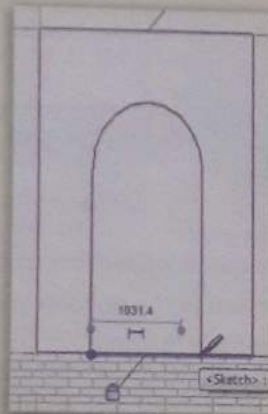

Figure 87: Split Tool.
- b. Select delete inner segment from the options bar (Figure 87,88).